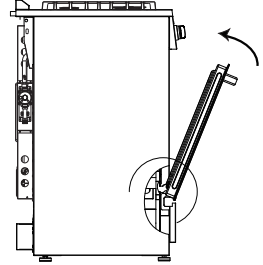

Fig.3
- Remove the burner securing screw (Fig. 3).
3. Firmly hold both sides of the door (Fig. 3).